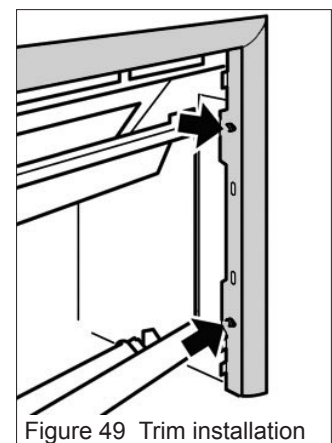

Figure 49 Trim installation
4. Attach the complete trim unit to the firebox with four screws. See figure 49.